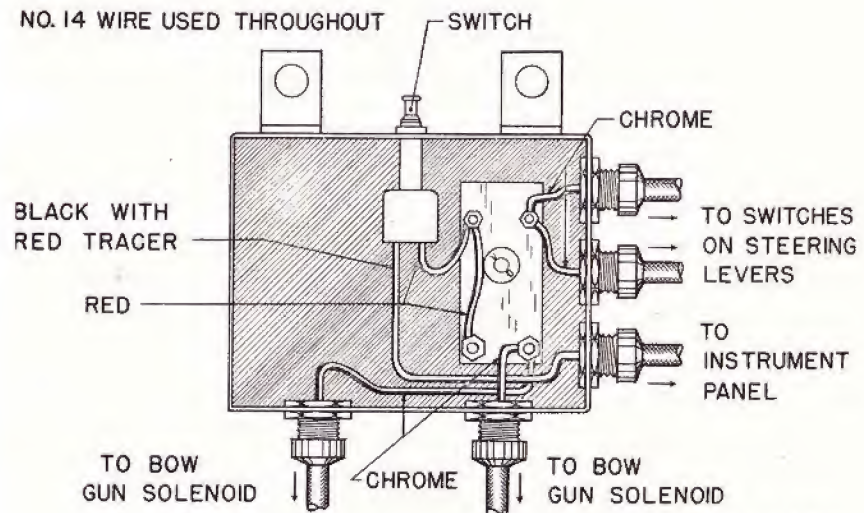

FIGURE 66.—Bow gun relay box.
b. The electric power is supplied by the main batteries and can be cut off by a push-pull switch located in the relay box (fig. 66). The relay box is attached to the front hull plate to the left of the instrument panel, directly above and between the bow guns.